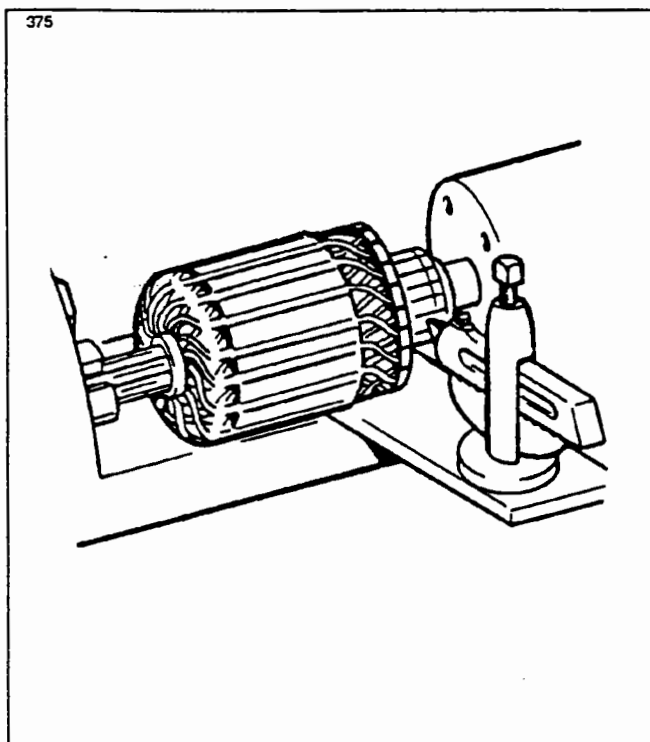

Figure 80-2. Turning Motor Commutator
1. Check the commutator for uneven wear, excessive glazing or evidence of excessive arcing. If only slightly dirty, glazed or discolored, the commutator can be cleaned with 00 or 000 sandpaper. If the commutator is rough or worn, it should be turned in a lathe. Refer to Figure 80-2. The armature shaft should be inspected for rough bearing surfaces and rough or damaged splines.